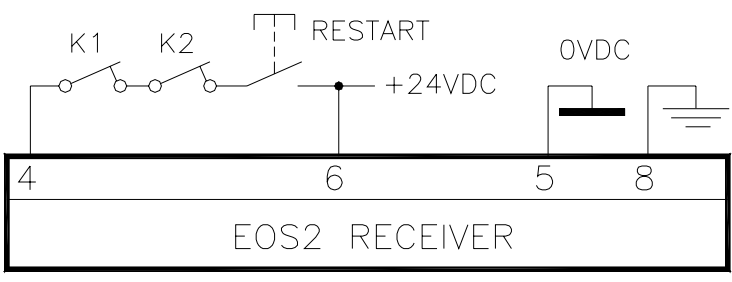

Figure 20 – Manual with K1K2 feedback
-  In the case of manual operation, the RESTART button in series with the NC contacts (feedback) of the external contactors K1/K2 (Figure 20) must also be present.